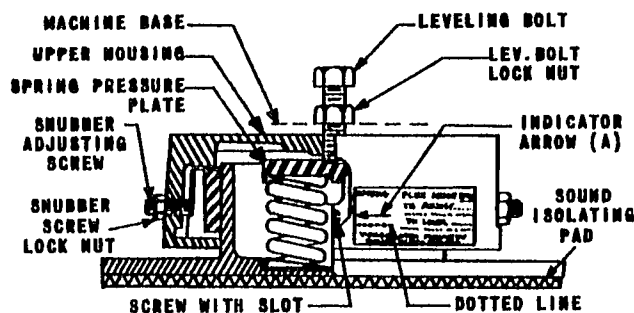

FIG. 5 SKETCH OF VIBRATION ISOLATOR (PAR. 9)
9.02 The jack screws have to be used in this adjustment whether isolators are already under the base or not. Refer to Figure 5 which is a sketch of the isolator showing its assembly. Remove leveling bolts and lock nuts from all isolators. If isolators are not under the base place the loose isolators outside the base next to their proper locations indicated by the untapped holes in the base.
9.09 The snubber adjusting screws shown in Figure 5 are set at the factory for minimum snubbing. Additional adjustment is not required unless the machine moves lengthwise. To correct this condition, release snubber locknuts at each end of the isolator, and turn down snubber adjusting screws 1/4 turn at a time until movement is reduced to acceptable limits. Turn down locknuts to lock the adjustment.